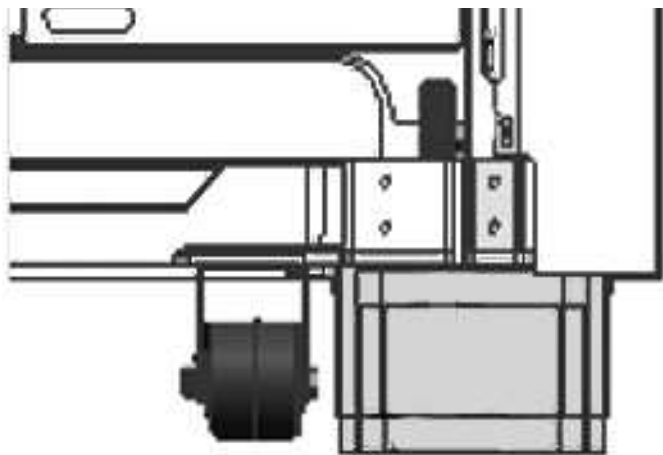

Figure 31: Leg Covers Installed
4. Slide the outer sleeve up while the inner piece remains on the floor. The mating part has dimples (that you cannot see) for which the holes of the larger sleeve should seize. You should feel a definitive click, letting you know that the apparatus has been mounted to the unit (*Figure 31*).